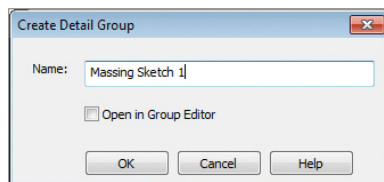

FIGURE 7.11 Create Detail Group dialog
2. When the Create Detail Group dialog opens, name the group **Massing Sketch 1**, as shown in Figure 7.11, and click OK.